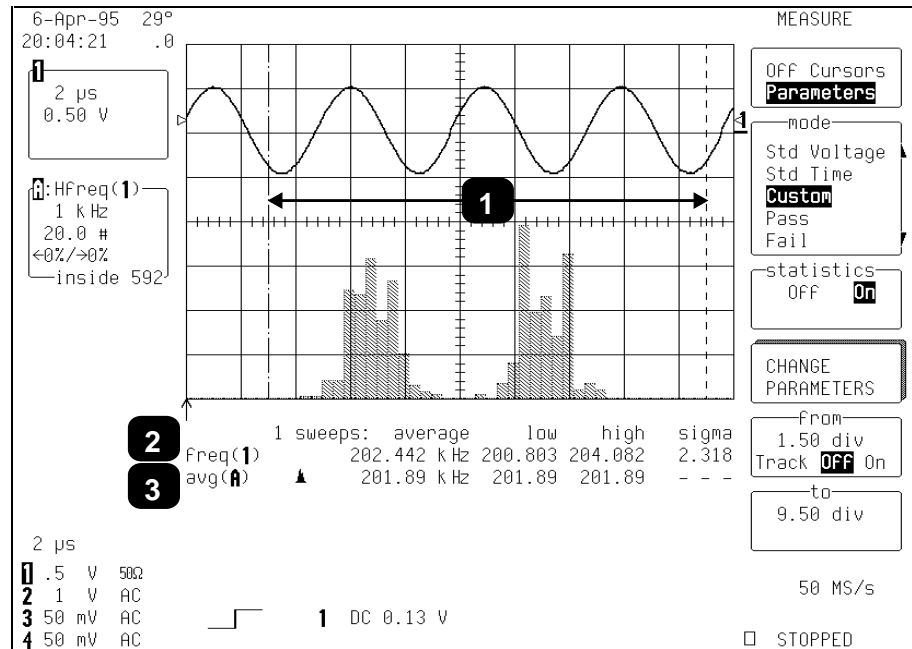

Figure 1.1
The "**MEASURE**" "**Parameters**" menu is accessed by pressing the **CURSORS/MEASURE** button, then selecting "**Parameters**" from the top menu that appears, as shown in *Figure 1.1*.
**Parameters** are used to perform waveform measurements for the section of waveform that lies between the parameter cursors (Annotation ❶ in this figure). The position of the parameter cursors is set using the "**from**" and "**to**" menus and controlled by the associated 'menu' knobs.
The top trace in *Figure 1.1* shows a sine waveform. A **freq** parameter measurement is being performed on the waveform (Annotation ❷) with a value of 202.442 kHz as the average frequency. The bottom trace shows a histogram of the **freq** parameter with an average frequency of 201.89 kHz (Annotation ❸), which is the average frequency of the data contained within the parameter cursors.